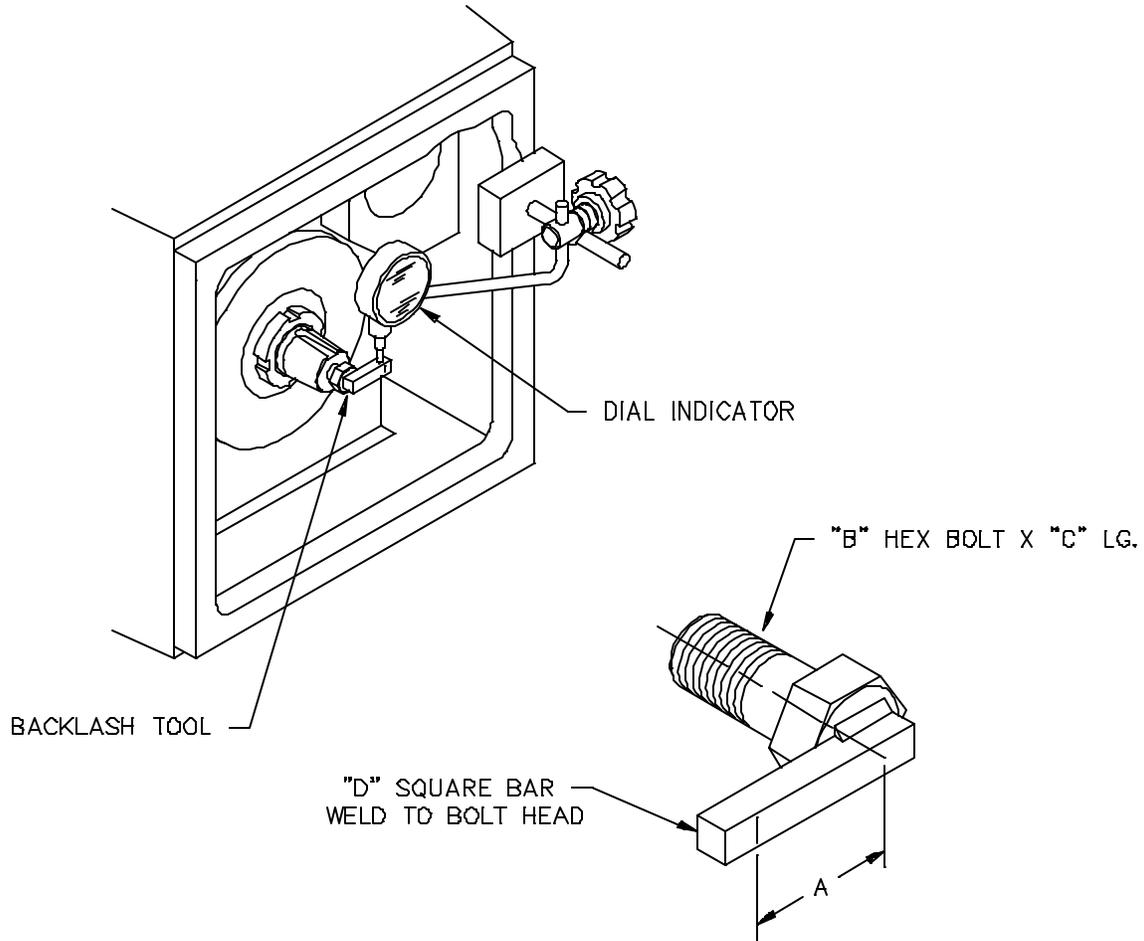

Figure 17: Backlash Setting
11. Install a backlash tool (supplied by others) (*Figure 17, page 21*) in the spiral bevel pinion shaft and measure the backlash by placing a dial indicator against the backlash tool at a right angle to the rotation. Restrain the output shaft from turning and rotate the spiral bevel pinion shaft back and forth to measure the free movement.